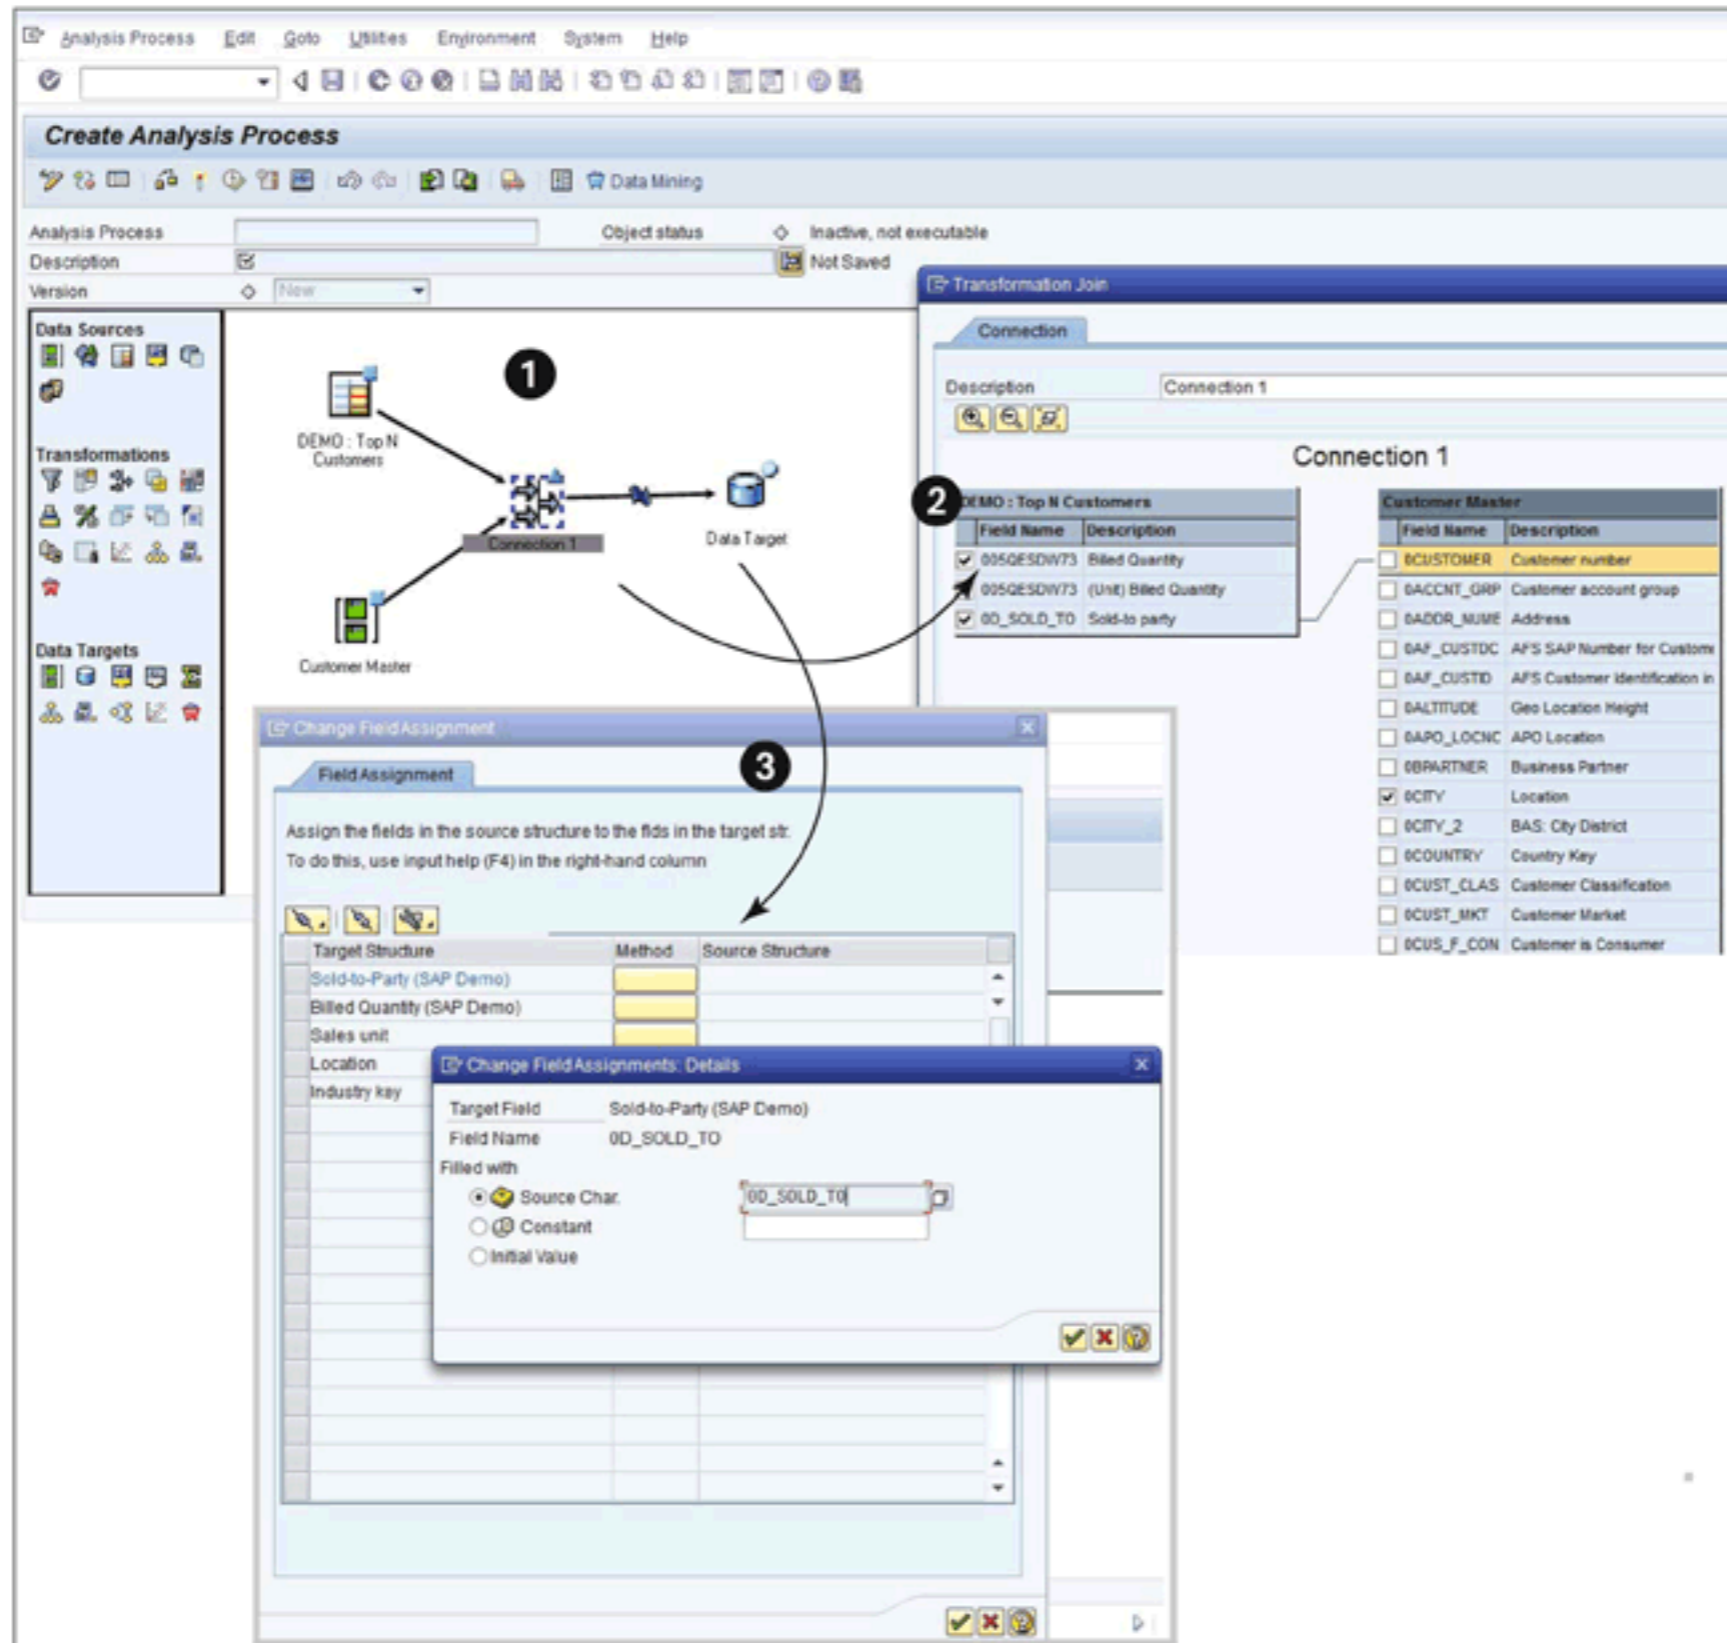

Figure 15.11 Define Transformations
Create links between the components by dragging the mouse from one component to the other (❶ of Figure 15.11). You can now maintain the join conditions for both data sources (❷), as well as the rules for mapping the transformed data to the fields in the data target (❸). Finally, check, save, and activate the analysis process. You can now execute the active analysis process.